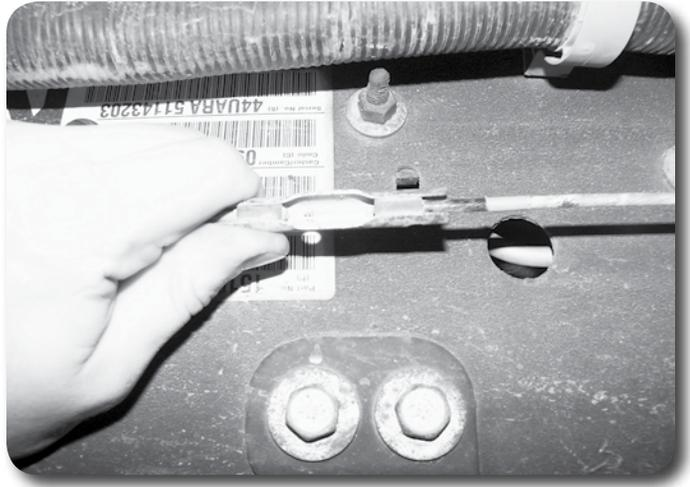

Figure 12
16. Pull down on the parking brake cable that runs down the driver's side frame rail. Clamp the cable where it runs through the front body mount so it stays slack Figure 12.